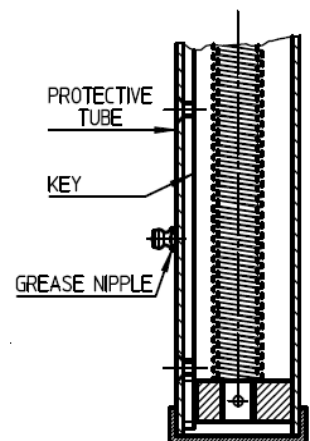

Figure 9.3 – Anti-rotation device lubrication
- Relube the anti-rotation device using proper grease nipple, as shown in Fig. 9.3.
- ⚠ WHEN LUBRICATING THE ANTI-ROTATION DEVICE, THE SCREW JACK MUST ALWAYS BE IN RETRACTED (LC) POSITION. DO NOT LUBRICATE THE ANTI-ROTATION DEVICE IN EXTENDED (LA) OR INTERMEDIATE POSITIONS!